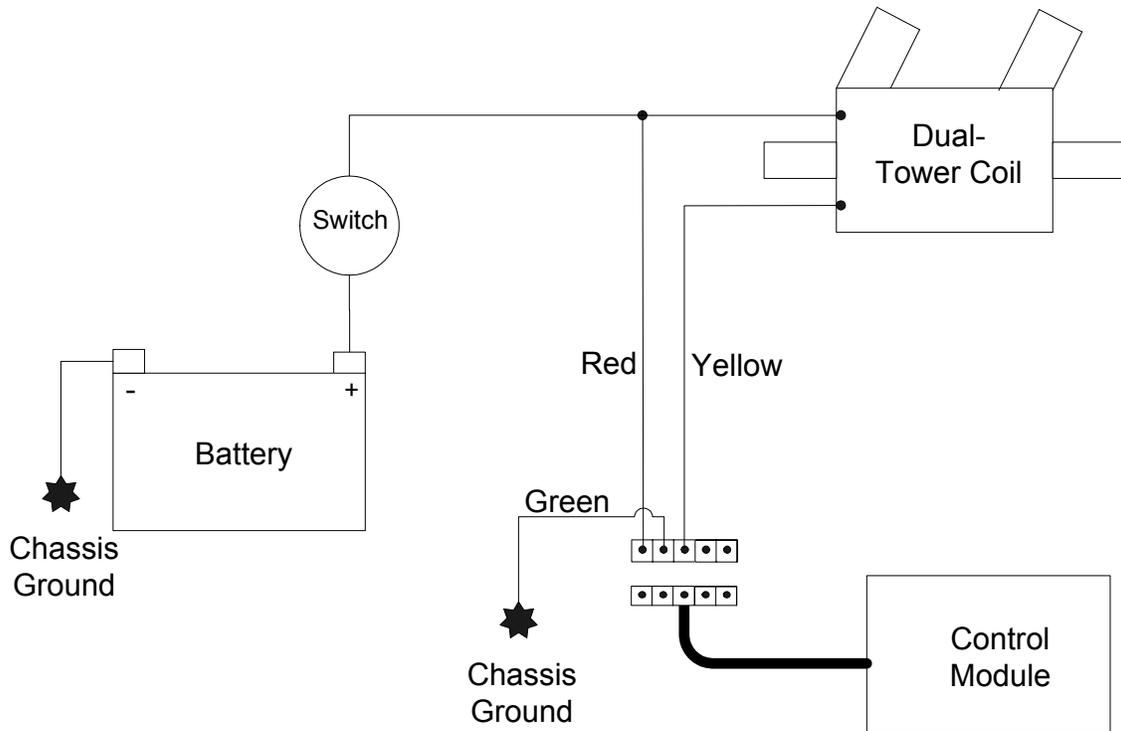

Figure 1
33. Figure 1 shows how the power wiring should look when you're done. The pickup plate and its wires are left out of the diagram for clarity – only the wires that the installer is responsible for connecting are shown. If you are unfamiliar with wiring diagrams, wires that have a “dot” at their intersection are electrically connected to one another, while a “jog” signifies that they are not connected.